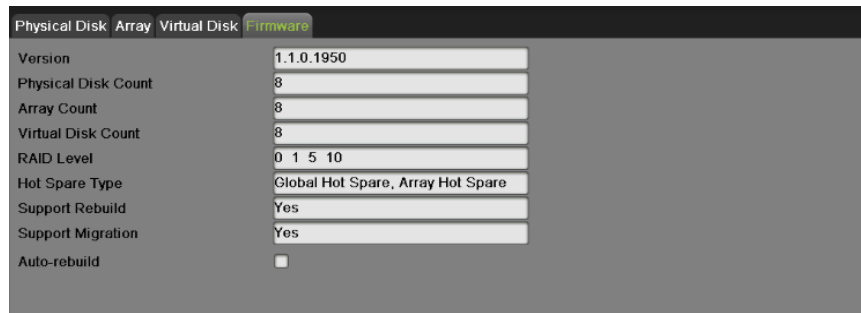

Figure 138 Firmware Interface
1. Enter the Firmware interface by going to Menu > System Configuration > RAID > Firmware, as shown in **Figure 138**.